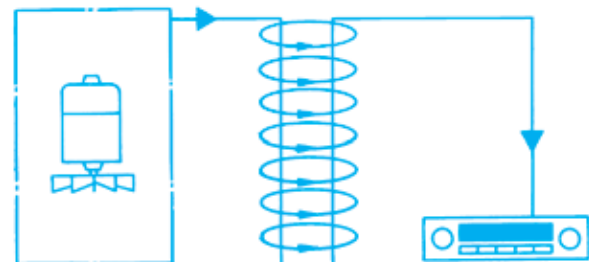

Figure 4-32. Inductive-coupling interference transmitted by an electromagnetic field between adjacent wiring.
- Inductive coupling as the magnetic fields between two conductors form and collapse between two conductors form and collapse (Figure 4-32).